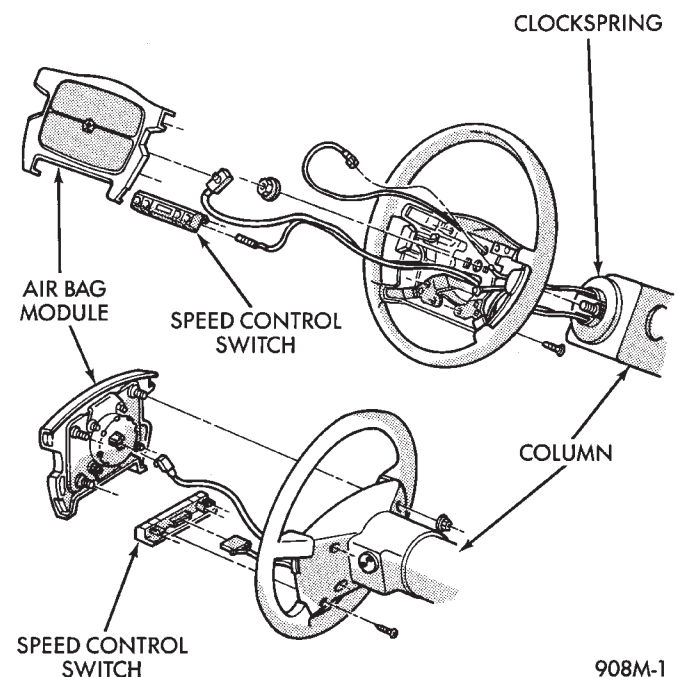

Fig. 10 Speed Control Switch Remove/Install - Typical
- (1) Disconnect negative cable from battery.
- (2) From underside of steering wheel, remove speed control switch mounting screws (Fig. 10).